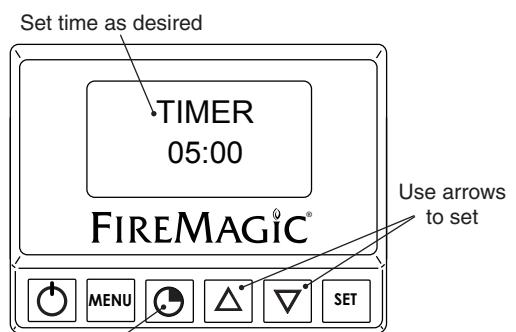

Fig. 16-4 Timer screen
- Press the timer button. Use the arrows to set the desired amount of time (see Fig. 16-4).